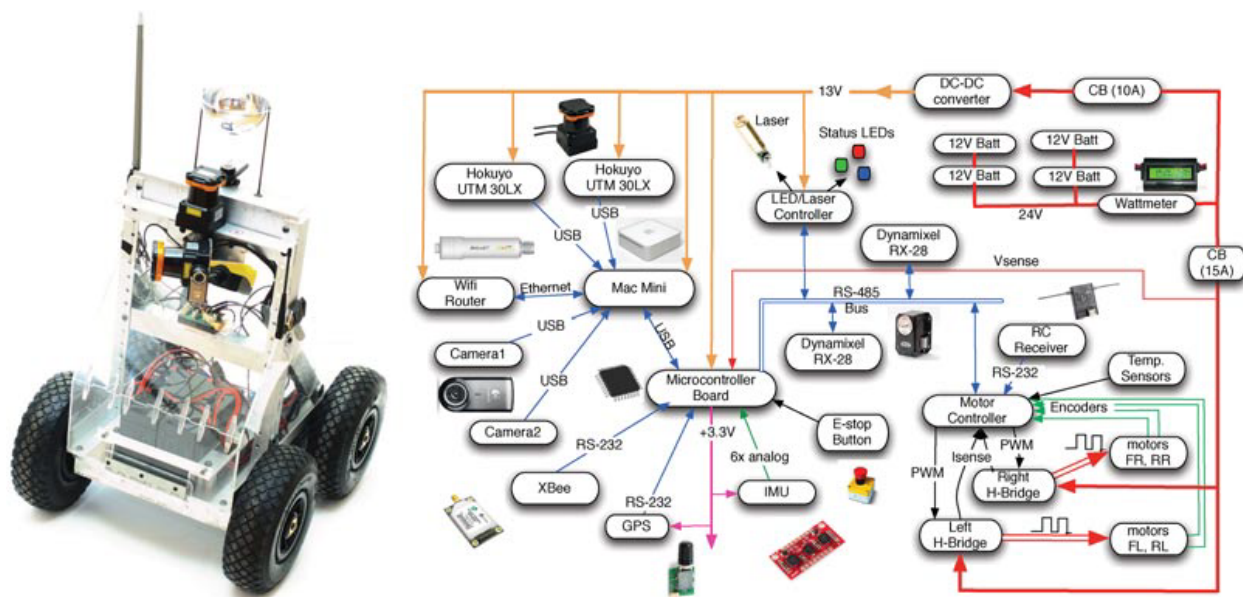

Figure 1: Differential-drive robot, equipped with encoders, IMU, 2-D LIDAR scanner, and an RGBD camera.
- **Robot:** A description of the differential-drive robot is provided in docs/RobotConfiguration.pdf. Fig. 1 shows a schematic of our robot. Even though the description file says that the origin of the robot body frame is at the back axle, it is arbitrary and you can choose your own origin. Using the geometric center of the robot body might yield better results because the differential-drive motion model assumes that the robot is rotating around its center.